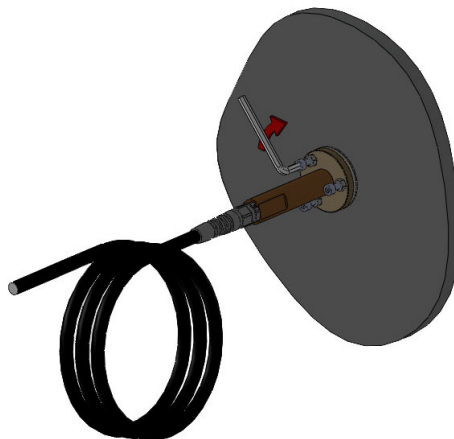

Fig.3.4
4. Tighten the locking bolts using the allen tool in a clockwise motion, adjust to only hand tight. Once you are satisfied that the unit is fully embedded into the hull, you will notice that sealant has squeezed out from around the perimeter of the light. Using a thinner or cleaner, apply to work rag and wipe off excess sealant to leave a clean seal. If you do not see sealant squeeze out from the body, you have not used enough sealant or tightened the unit enough to the hull. Carefully examine the installation to make sure the seal you have installed on the unit is fully water-tight. If in doubt, remove light, re-apply sealant and re-install. (Fig.3.4)